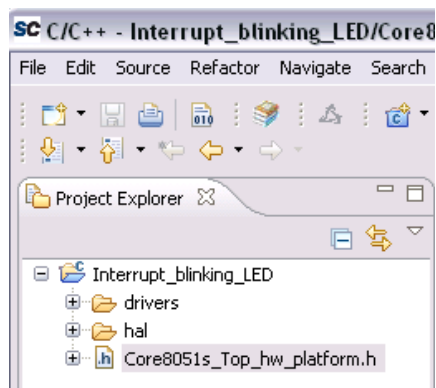

Figure 24 Project Explorer
8. The project explorer is displayed, as shown in Figure 24.